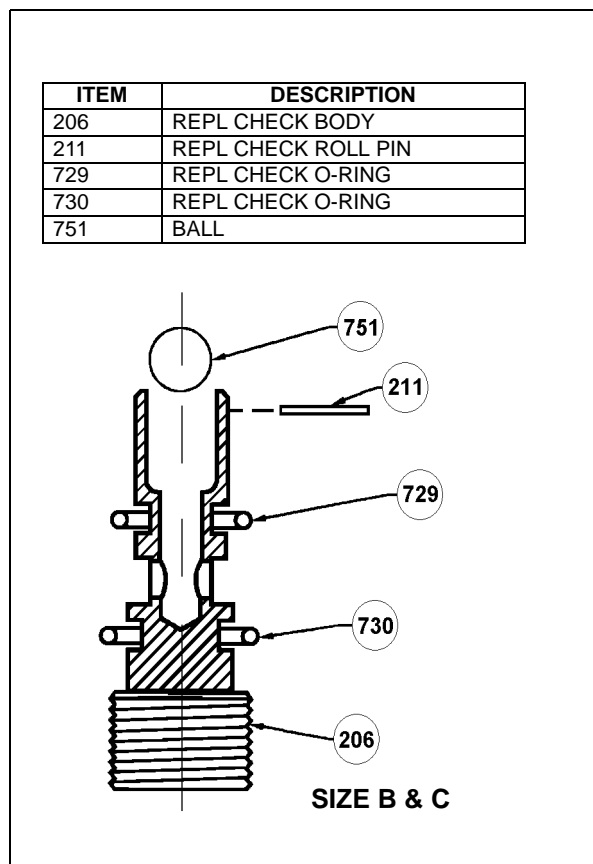

FIGURE 13. Replenishment Check Assembly.
14. If repair of replenishment check is necessary, entire sub-assembly should be replaced (Figure 13).